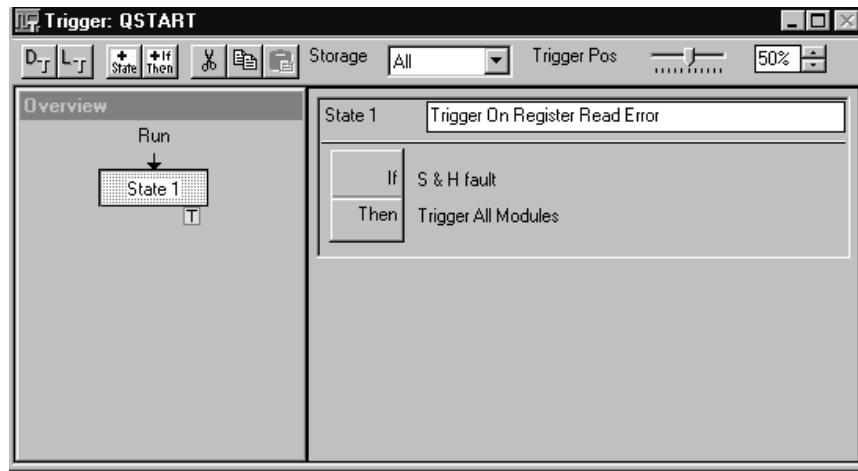

Figure 3–20: Trigger window for Exercise 5
2. Notice that the event recognizer is set to trigger on a setup and hold fault (see Figure 3–20).
4. Open the Define Violation dialog box to see how the setup and hold violation is specified. (See Figure 3–21 on page 3–28.)